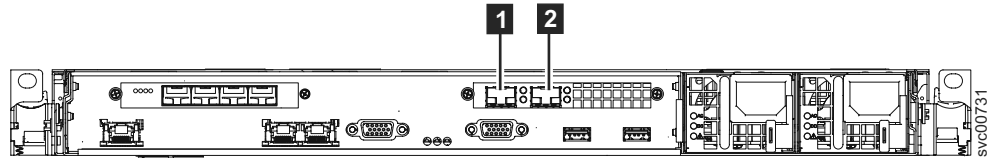

Figure 35. 10 Gbps Ethernet ports on the rear of the SAN Volume Controller 2145-CG8
2. Optional: If the 10 Gbps Ethernet feature is installed, you can connect Ethernet optical cables to Ethernet port 3, as shown by **1**, and Ethernet port 4 (**2**), in Figure 35 on page 39.